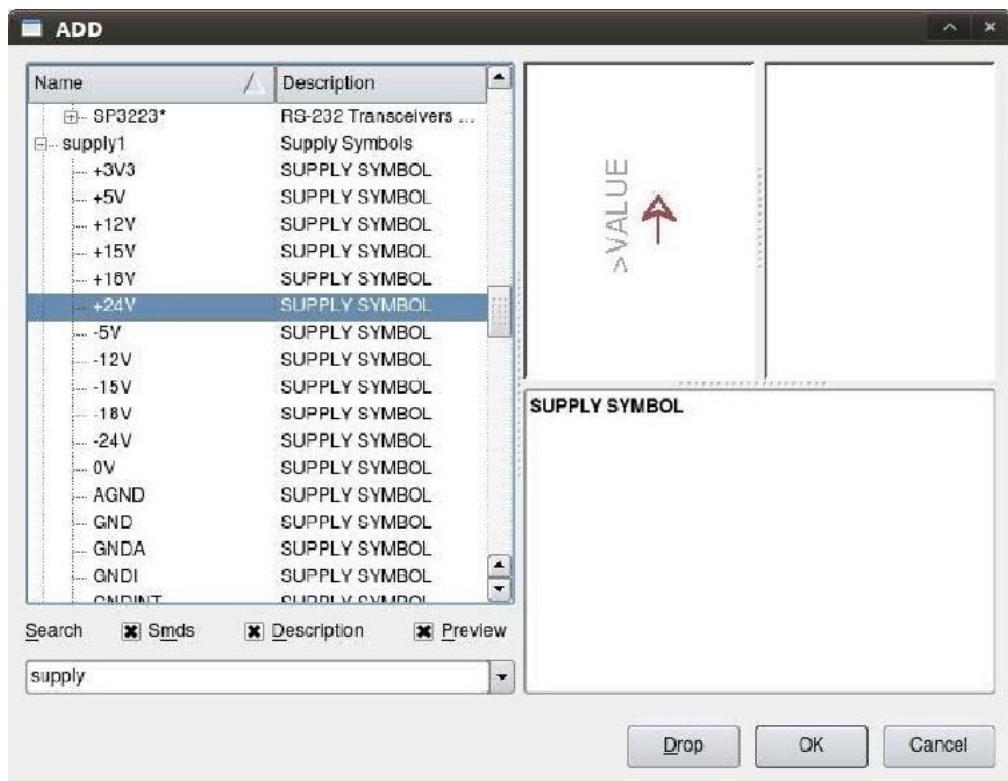

Figure 6-2. Adding supply symbols for +24v and GND
2. *Add supply symbols:* With the schematic editor open, select Edit Add (see Figure 6-2). Type **supply** into the search bar and press Enter on your keyboard. Scroll down until you see the “+24v” symbol and select it, placing it on the schematic. Next select Add again and find the “GND” symbol, placing it on the schematic.